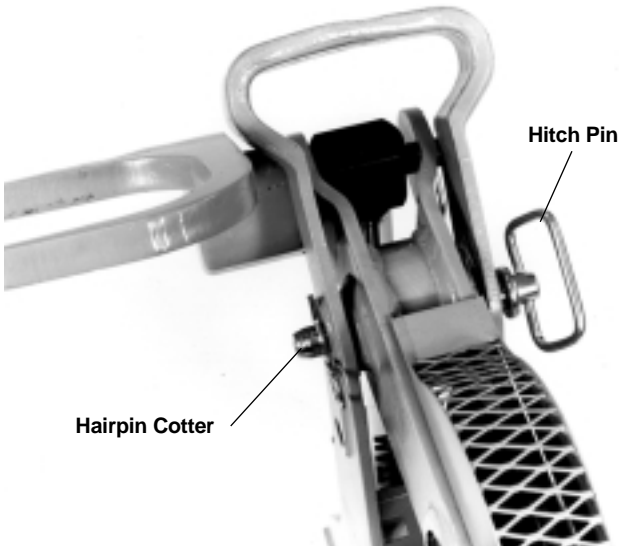
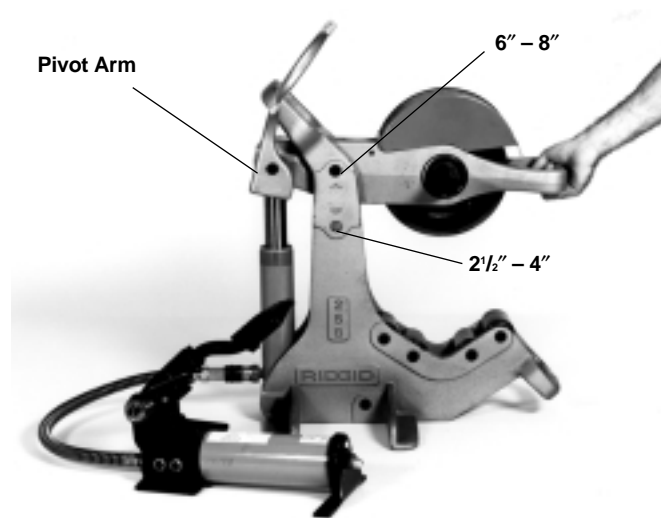

Figure 9 – Removing Hairpin Cotter and Hitch Pin
Figure 10 – Aligning Pivot Arm
- a. Remove the hairpin cotter and hitch pin from the pivot arm (Figure 9). Reposition the pivot arm to the locating hole marked, 6" – 8". (HINT: Activate the foot pump to elevate the pivot arm.) Align the hole on the pivot arm with the hole in the cutter frame and insert the hitch pin and hairpin cotter. Use handle on front end of pivot arm to reposition (Figure 10).